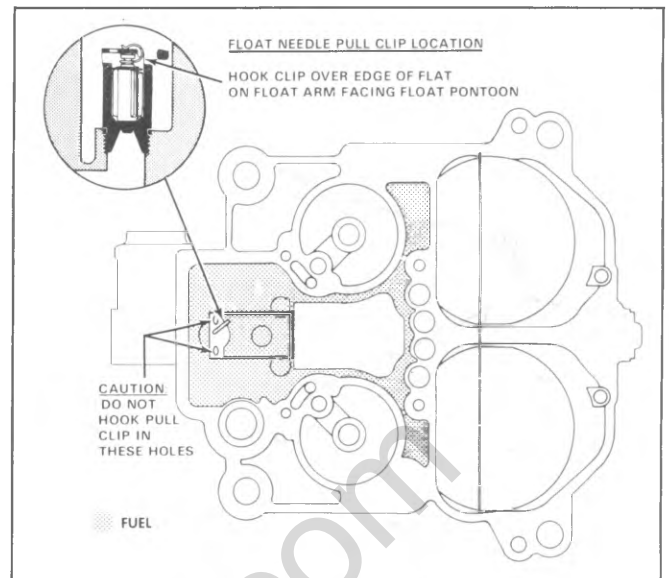

Fig. 6C2-64--Pull Clip Location
15. Install needle by sliding float lever under needle pull clip---correct installation of the needle pull clip is to hook the clip over the edge of the flat on the float arm facing the float pontoon (Fig. 6C2-64).